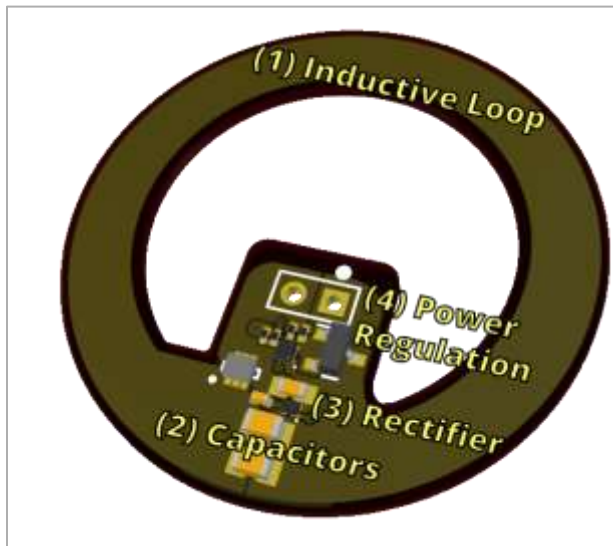

Figure 15: Components of the Receivers
A receiver consists of four main components: (1) an inductive loop which captures magnetic flux from the transmitter, (2) a set of capacitors chosen to make the inductive loop resonant, (3) a rectifier, to convert RF to DC, and (4) a power regulation circuit (*Refer Figure 15*).